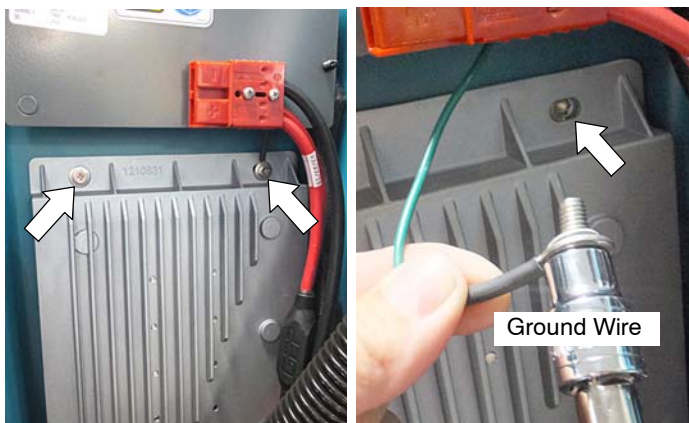

Fig. 12
6. Re-install the heat-sink panel to machine. Make sure to reconnect ground wire to panel (Figure 12).